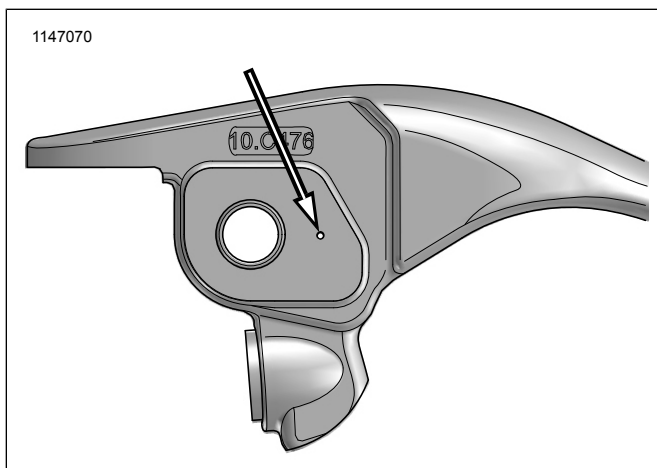

Figure 1. Machined Dot
- Refer to Figure 1. Inspect clutch lever for machined dot